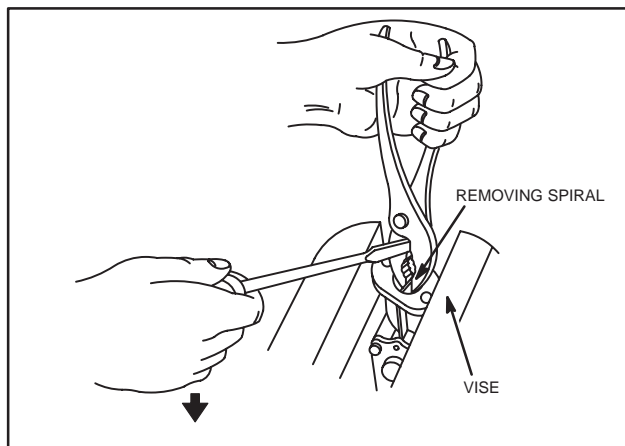

Fig. 176 – REMOVING SPIRAL
2. Grasp spiral firmly with a pair of pliers, as shown, Fig. 176.
4. Using edge of vise, push down on screwdriver handle to pry out spiral, Fig. 176.